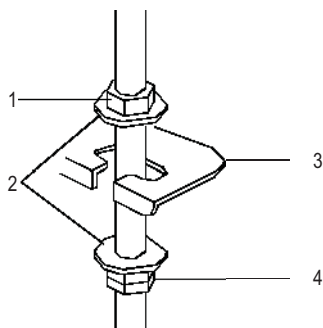

Fig. 28 – Secure the Hanger bracket
- b. Securing the hanger bracket (see Fig. 28).